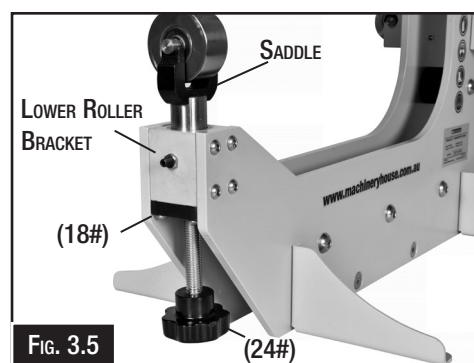

Fig. 3.5
2. Thread hand wheel into lower wheel bracket and continue tightening until it starts raising lower wheel saddle. (Fig. 3.5)